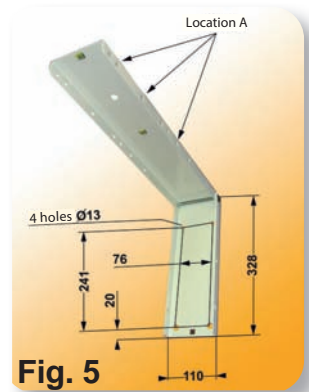

Fig. 5
- Use the hinged square (Fig. 5) to mark the fixing holes.
- Place the strut in the hinged bracket with the folds facing inwards and the larger holes positioned on the side of the square perforations (location A) of the bracket (Fig. 5).
- Fig. 5 gives the overall dimensions and drilling dimensions (in mm) for fixing the hinged bracket.